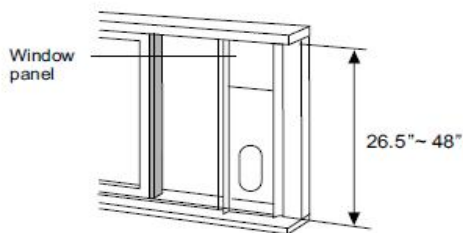

Fig. 15
3. Adjust the length of the window bars to the same length and width of the opening of the window. Cut the window piece if necessary to fit the length of your window. See Fig. 15.